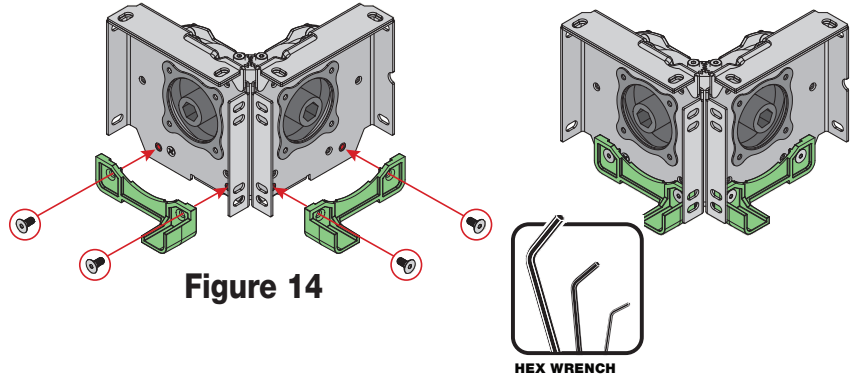

Figure 14
3. Rotate the fabric/roller assembly being adjusted in either direction to raise or lower the fabric panel (Figs. 14 and 16).
1. Locate fascia brackets included with your shade (Fig. 14).